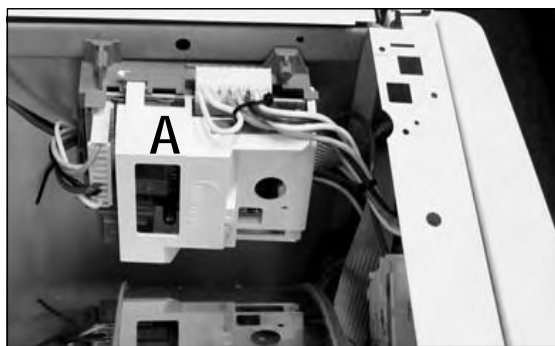
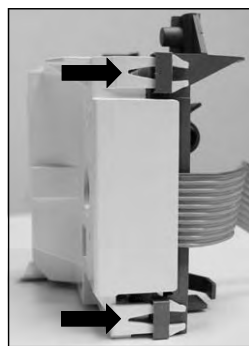
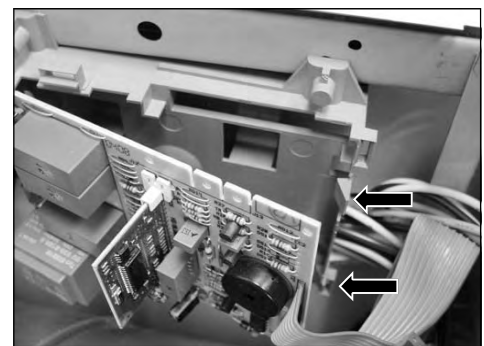

Fig. 6-1
Fig. 6-2
Fig. 6-3
- To remove the Dryness Sensor Module, first remove the Module Cover (A) (Fig. 6-1) by unlatching the two (2) Module Cover Latches located on the front top and bottom of the Module Housing (Fig. 6-2). Then swing the Module Cover out and off removing it from its rear hinge. With the Module Cover removed disconnect the wiring and then slide the Module Board out from the Module Housing by pressing the two (2) Sensor Board Release Latches (Fig. 6-3).